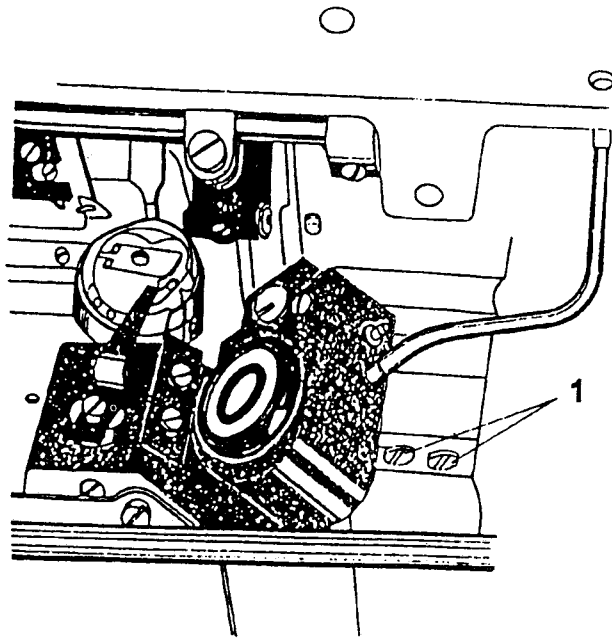

Fig. 14
21. To adjust the position of the needle bar with respect to that of the hook shaft (Figs. 14, 15)
After a substantial adjustment of machine mechanism should be checked the median (vertical) needle bar position with respect to that of the hook shaft. The hook shaft axis is displaced to the left of the needle bar axis. For adjustment, loosen the two screws (1, Fig. 14) ensuring the locking joint between the needle bar axis and the hook shaft axis. In correct position, the hook gear box is in direct contact with the bed plate and the hook gear box. Lock the gear box position by tightening the two screws (1).